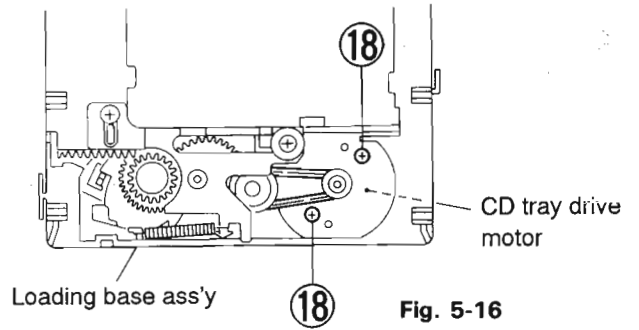

Fig. 5-16
**How to Remove the CD Tray Drive Motor and its P.C.board** (Refer to Figs. 5-16 and 5-17)
6. From the loading base ass'y, remove the two screws (18) retaining the CD drive motor.